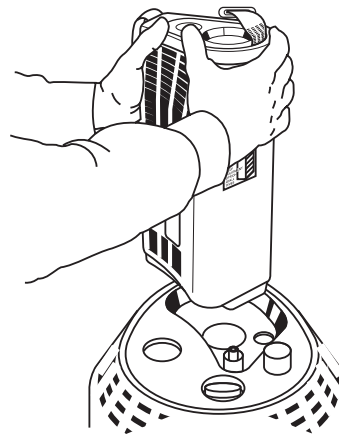

Figure 1-8: Positioning the Companion 1000/T for Filling
4. Hold the Companion 1000/T with both hands and position the contoured case over the matching recessed area in the Stationary cover (Figure 1-8).